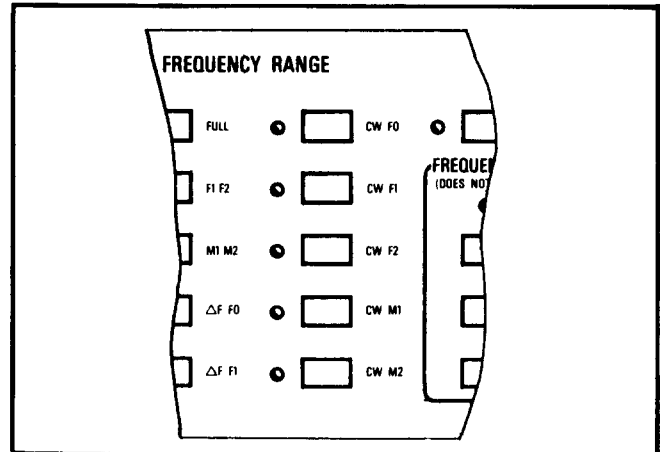

Figure 3-11. CW F0, CW F1, CW F2, CW M1/ and CW M2 Pushbuttons
b. CW F0, CW F1, CW F2, CW M1, and CW M2 Pushbuttons (Figure 3-11).